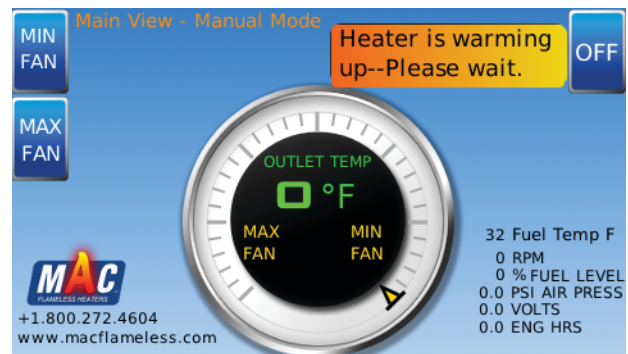

Figure 3-4. Heater Warming
5. When the coolant temperature reaches 140°F (60°C), engine warming is complete and the heater automatically begins warming. The screen displays "Heater is warming up--Please wait" (*Figure 3-4*).